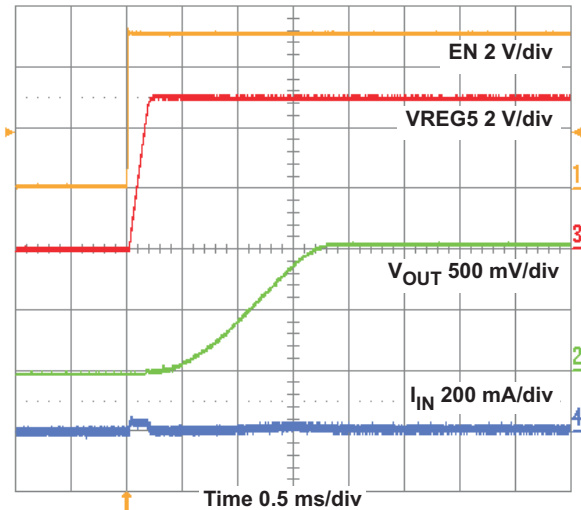
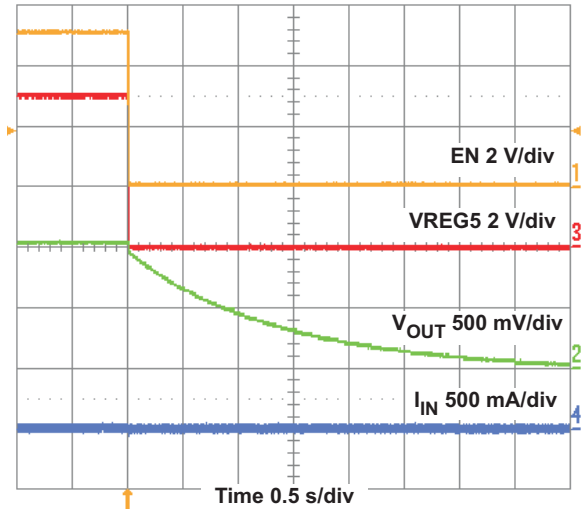

Figure 10. TPS54427 Start-Up Relative to EN
Figure 11. TPS54427 Shut-down Relative to EN
The TPS54427 start-up and shut-down waveforms relative to enable (EN) are shown in Figure 10 and Figure 11.